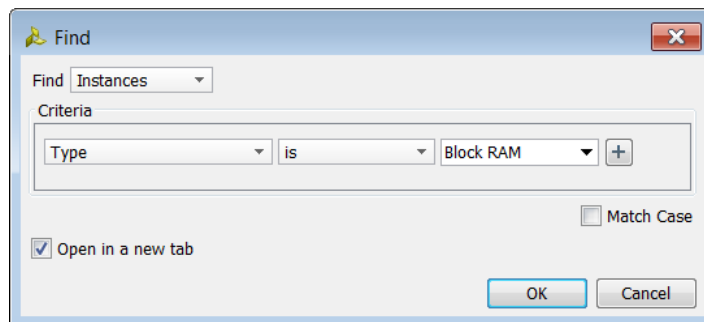

Figure 26: Find dialog box
1. Select **Edit > Find** to open the Find dialog box, as shown in Figure 26, and search for Block RAMs.